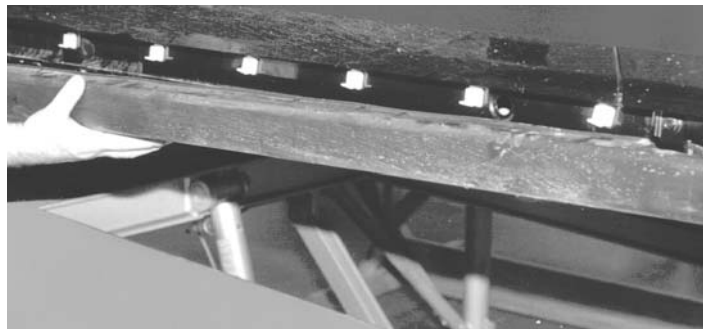

Figure 4
1. Remove rocker panel moulding from vehicle to expose pinchweld. (See Figure 4.)